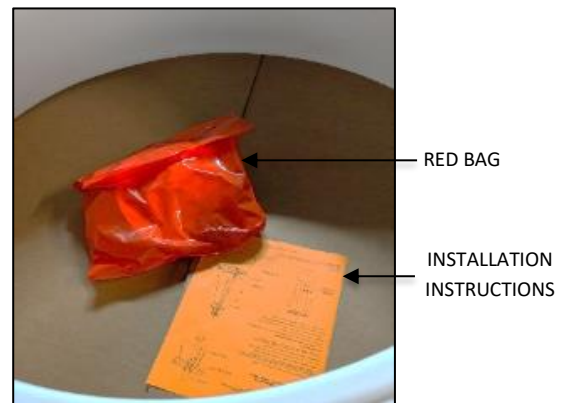

FIG. 3 RED BAG AND INSTALLATION INSTRUCTIONS
2. INSTALLATION INSTRUCTIONS (shown in FIG. 3) - Please completely read the install instructions before starting installation.
3. RED BAG (shown in FIG. 3) contains below following items.